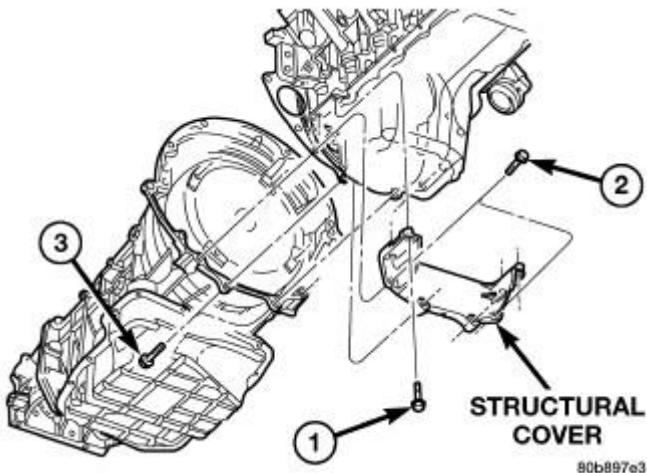

Fig. 105: Identifying Structural Cover
4. Starting with the two rear cover-to-engine bolts, tighten bolts (1) to 54 N.m (40 ft. lbs.), then tighten bolts (2) and (3) to 54 N.m (40 ft. lbs.) in the sequence shown in **Fig. 105**.